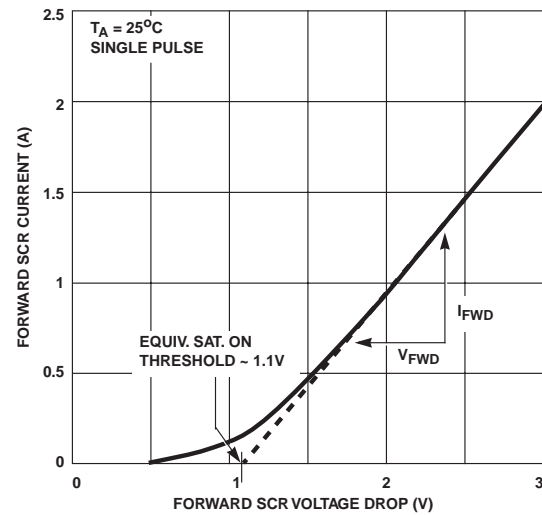

FIGURE 3. HIGH CURRENT SCR FORWARD VOLTAGE DROP CURVE
3. Refer to the Figure 3 graph for definitions of equivalent "SCR ON Threshold" and "SCR ON Resistance". These characteristics are given here for thumb-rule information to determine peak current and dissipation under EOS conditions.